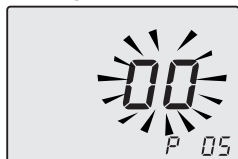

Fig. 9.5
- Scroll the various parameters using keys 18 or 19 until the letters **P05** are displayed on the LCD display, indicating that "parameter 05" (Fig. 9.5) has been activated.